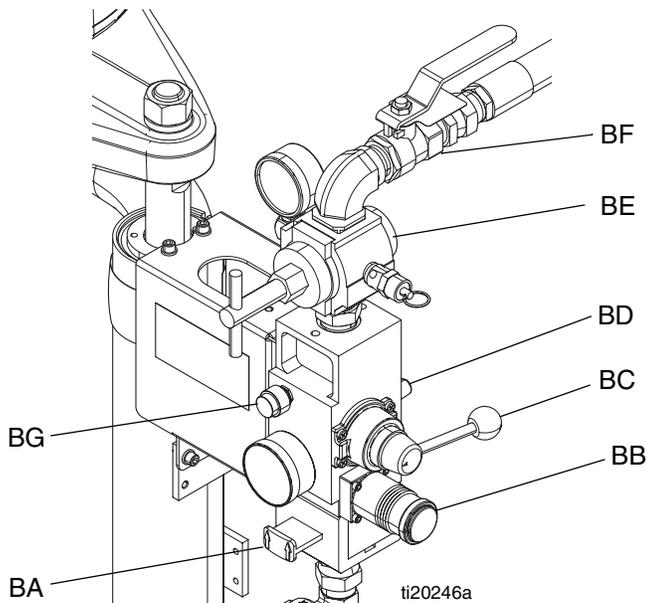
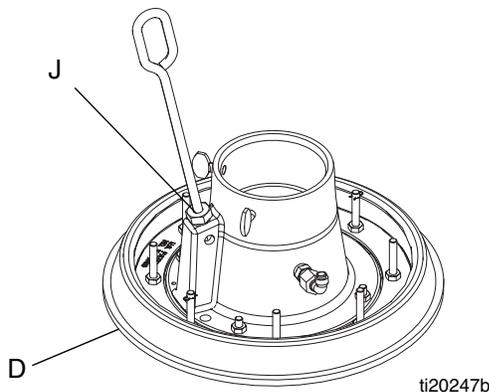

FIG. 2. Integrated Air Controls
FIG. 9
| G | Integrated Air Controls (see FIG. 2 on page 6) | | |
2. See FIG. 2, page 6.
- a. Close the air motor ball valve (BF) and the main air slider valve (BA).
- b. *If the RAM is in a raised position*, set the ram director valve (BC) to DOWN. The ram will slowly drop.
2. Refer to FIG. 1 and FIG. 2. Close all air regulators and air valves.
3. Open main air slider valve (BA) and set ram air regulator (BB) to 45 psi (0.31 MPa, 3.1 bar). Set director valve handle (BC) to UP and let the ram rise to its full height.
5. Put a full drum of fluid on the ram base, slide it back against the drum stops, and center it under the platen (D). See FIG. 9.